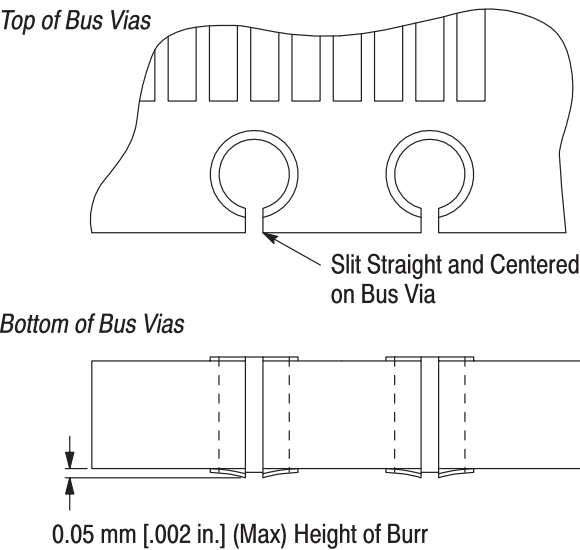

Figure 8
7. Refer to Figure 8 and inspect the pc board for the following: